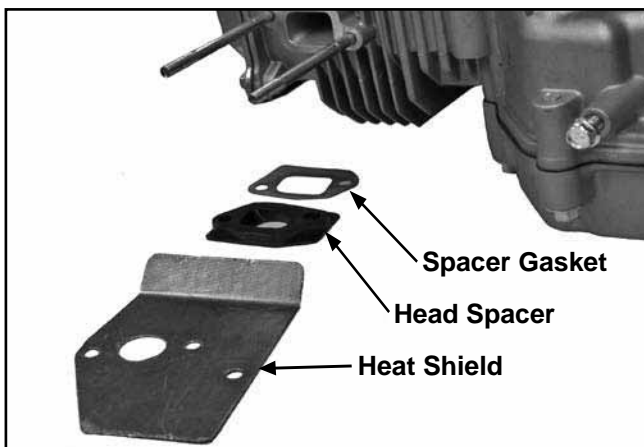

Figure 8-19. Carburetor Gasket Sequence.
5. Slide off the carburetor's heat shield, head spacer, and spacer gasket, noting the sequence. See Figure 8-19.